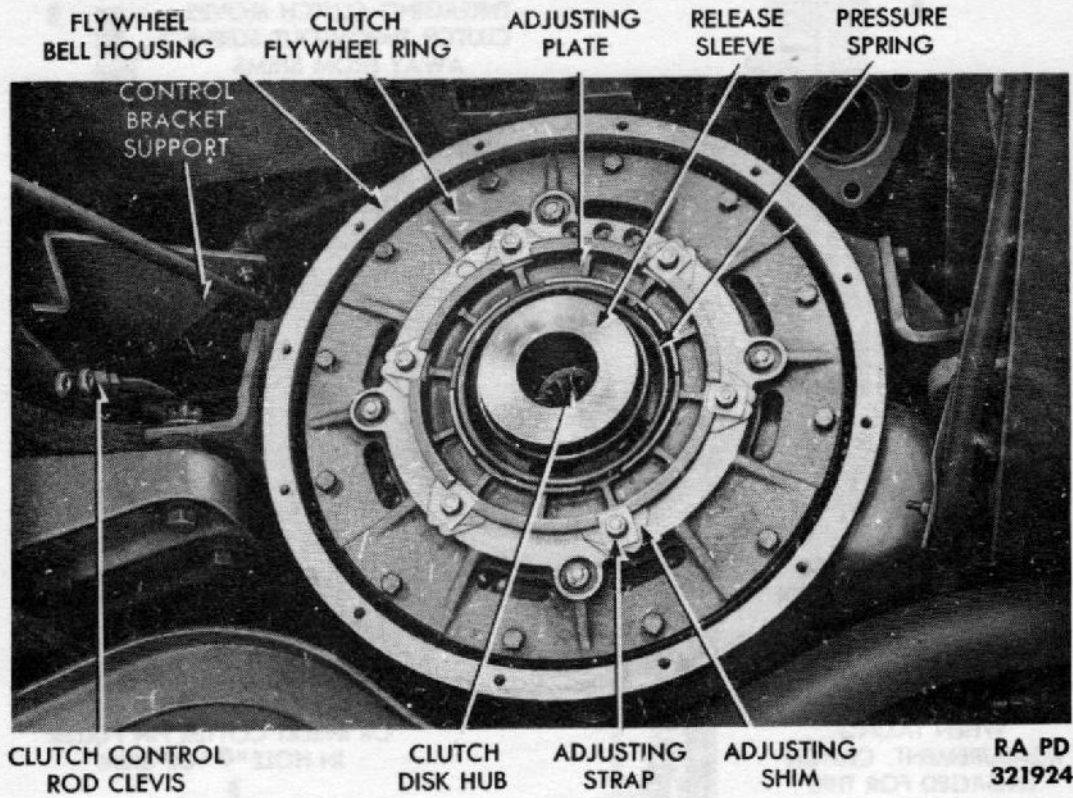

Figure 81 – Clutch Installed – Transmission Removed
a. **Description** (fig. 81). The clutch is a 2-plate, single dry disk type. The inside face of the flywheel forms the one drive plate, and pressure plate forms the other. The dry disk, which is the driven plate, is located and held by spring action between the two driving plates. The driven plate, in turn, drives the transmission through the splined end of the transmission drive gear. Depressing the clutch pedal relieves the pressure of the driving plates, allowing the driven disk to revolve or stop independently of the driving plates. The flow of engine power is thereby interrupted.